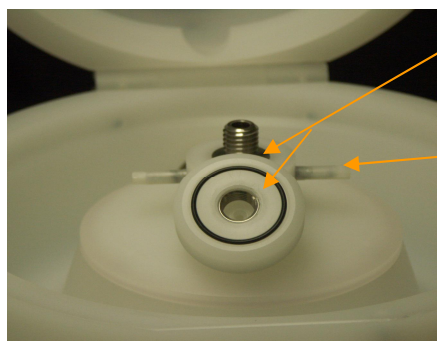
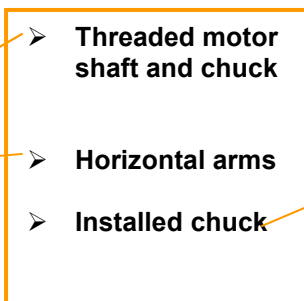

Figure 3-12A
Figure 3-12B
- Hold the two horizontal arms on the column below the base of the chuck. Turn the chuck counter-clockwise to remove (see fig. 3-12A), and clockwise to install, making sure the chuck is snug (see fig.3-12B).